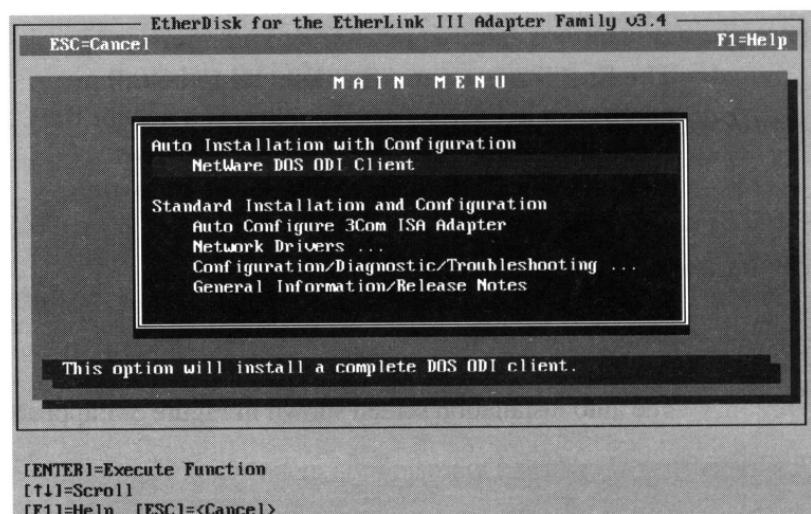

Figure 3-2. Main Menu
6. When the main menu screen shown in Figure 3-2 appears, select NetWare DOS ODI Client and press [Enter].